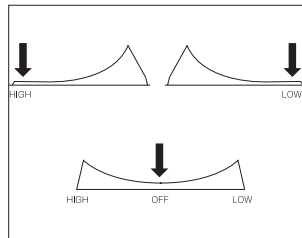

FIG. 4B
3. To turn OFF, press the ON/OFF switch to return to the center position. (Fig 4B)